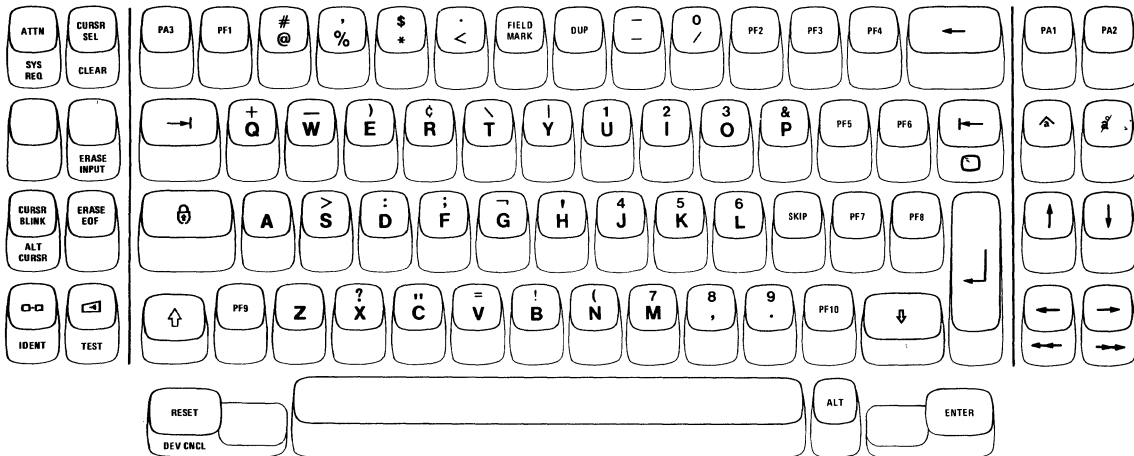

Figure 3-3. 3276 Data Entry Keyboard (See Note)
- The Data Entry keyboard (Figure 3-3), which provides the basic data entry type of keyboard